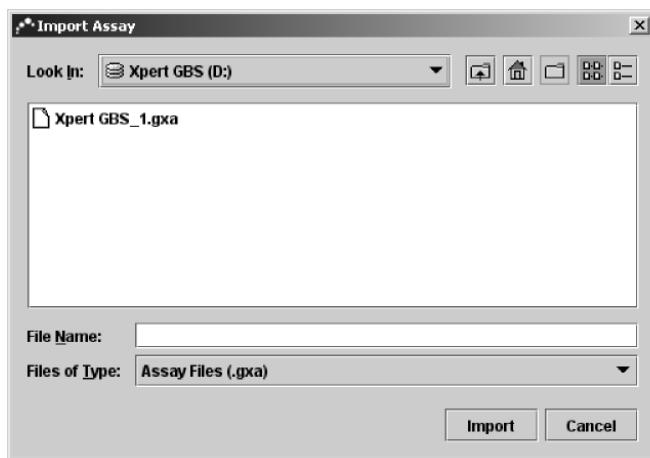

Figure 2-30. Import Assay dialog box
2. Click **Import**. The Import Assay dialog box appears (Figure 2-30).